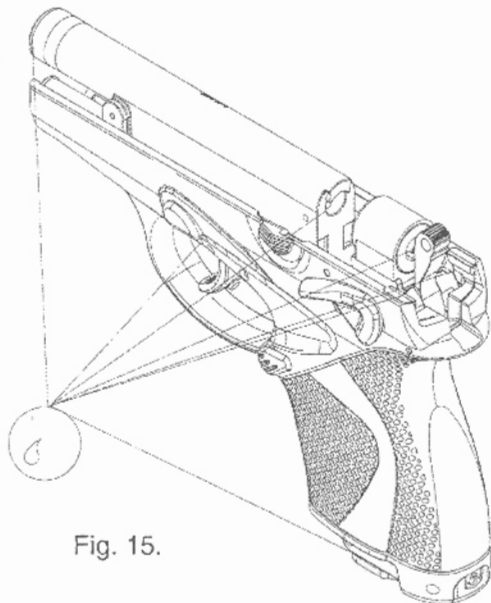

Fig. 15.
4.3. Should the pistol get wet, it is necessary to make incomplete disassembly of the pistol and to leave the pistol in a warm place for a few hours. The temperature should not be higher than 45 C. Further on, lubricate the pistol mechanism with gun oil in the following places (Fig. 15):
- and in the places indicated on Fig. 15.
4.4. Regular oiling should be done after 500 shots but not less than once every six months following the procedure described in item 4.5 of this section.